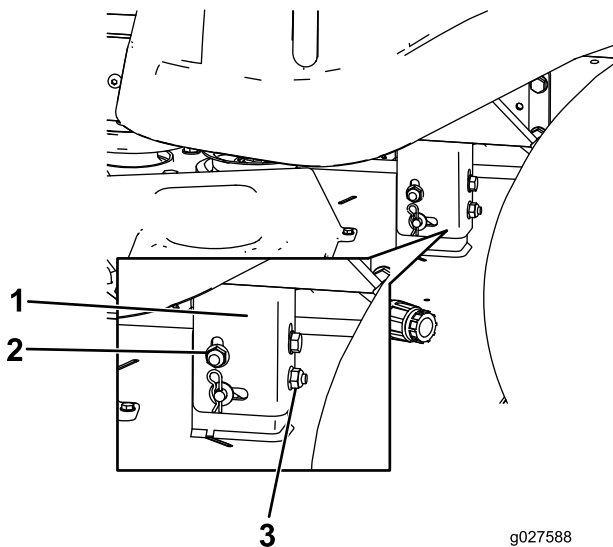

Figure 59
8. Raise or lower the left side of the mower deck by rotating the rear nut (Figure 59).
Note: Rotate the rear nut clockwise to raise the mower deck; rotate the rear nut counter-clockwise to lower the mower deck. (Figure 59).